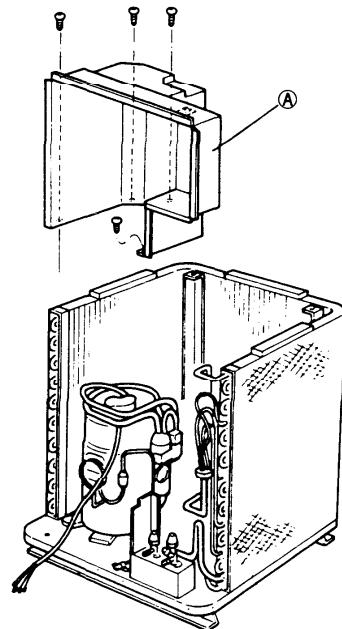

Fig. 9
- 1) Unfasten four screws fixing the cover ①. The cover can be removed by lifting it upward. Fig. 9